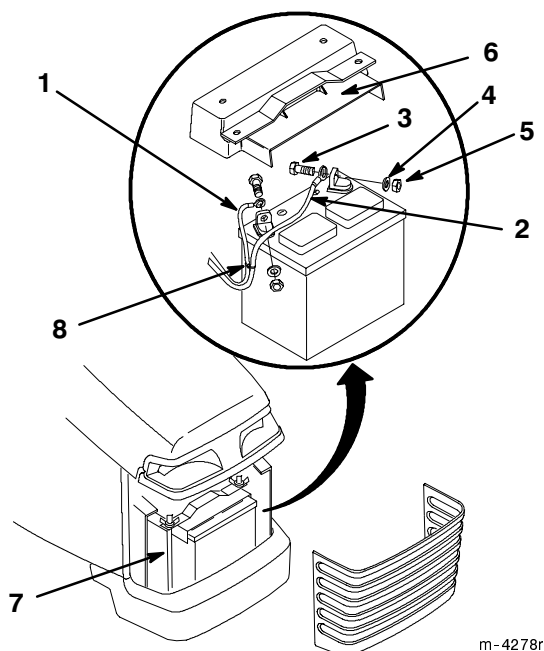

Figure 54
3. Remove the battery shield (Fig. 54).
4. Disconnect the negative (black) ground cable from the battery post (Fig. 54).
5. Disconnect the positive (red) cable from the battery post (Fig. 54).
1. Place the battery onto the chassis (Fig. 54).
2. Using the bolt, washer and locknut, connect the positive (red) cable to the positive (+) battery post (Fig. 54).
3. Using the bolt, washer and locknut, connect the negative (black) cable to the negative (-) battery post (Fig. 54).
4. Replace the battery shield and secure to the chassis with hold-down rods and wing nuts (Fig. 54).